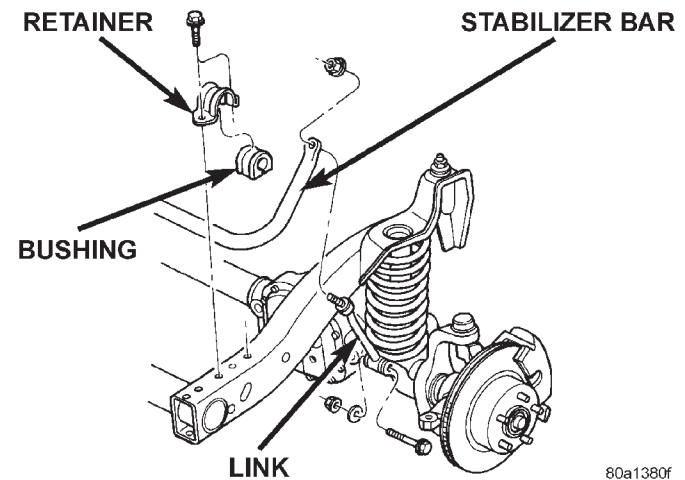

Fig. 6 Stabilizer Bar
- (1) Remove upper link nuts (Fig. 6) and separate the links from the stabilizer bar with Remove MB-990635.
- (2) Remove front bumper valence, refer to Group 23 Body for procedure.
- (3) Remove stabilizer retainer bolts (Fig. 6) and remove retainers.
- (4) Remove stabilizer bar.
- (5) Remove lower link nuts and bolts and remove links (Fig. 6).